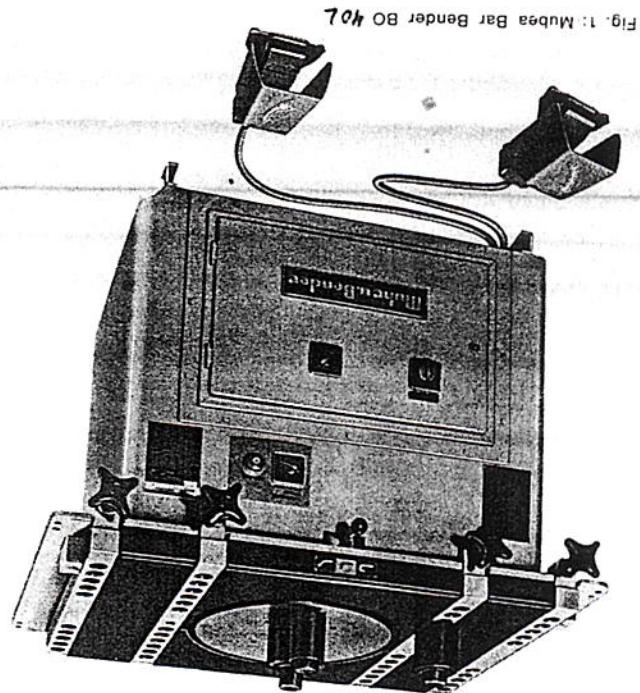

Fig. 1: Mubea Bar Bender 407
- Fig. 1 Assembly Drawing: Housing